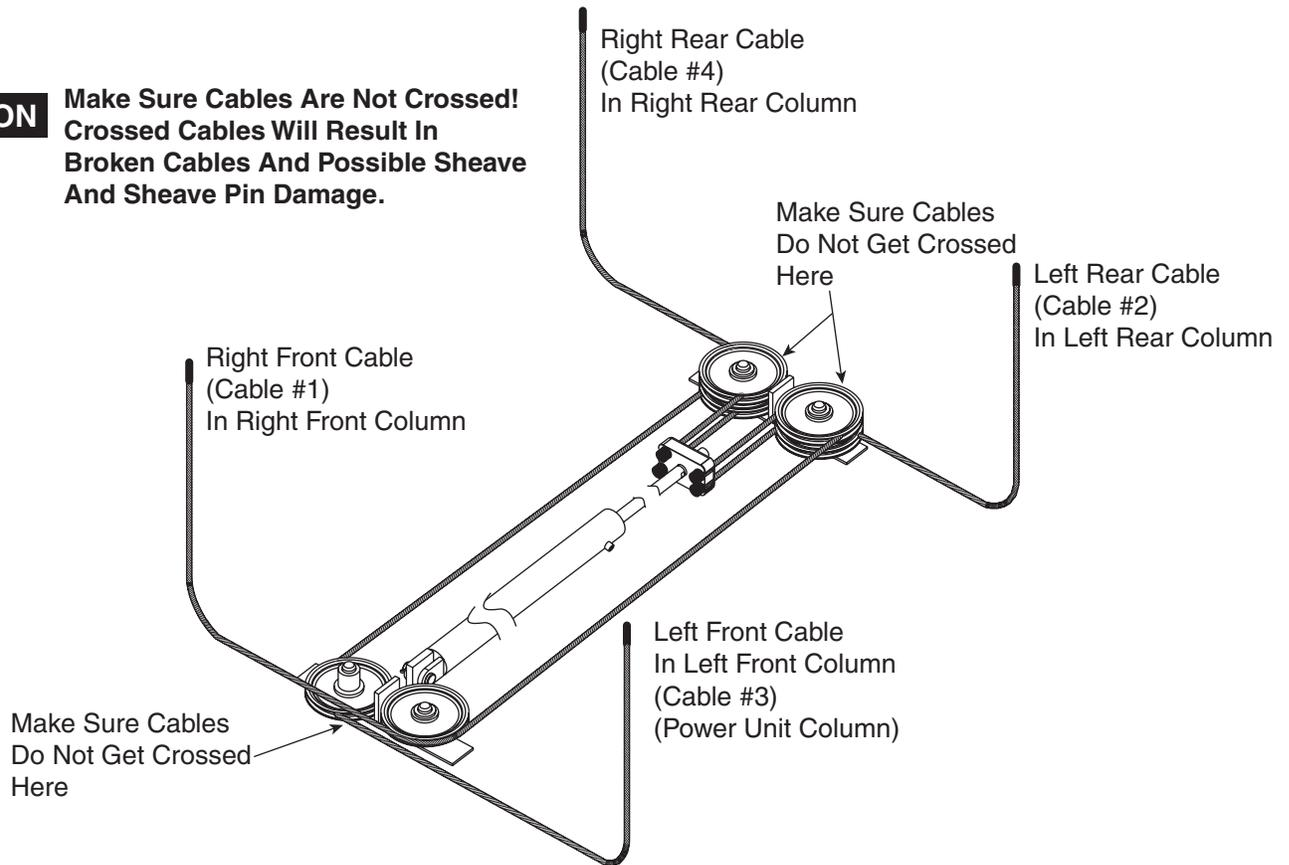

Fig. 13
- A.) Review cable routing illustration, Fig. 13 to see how the cables are routed to the columns.